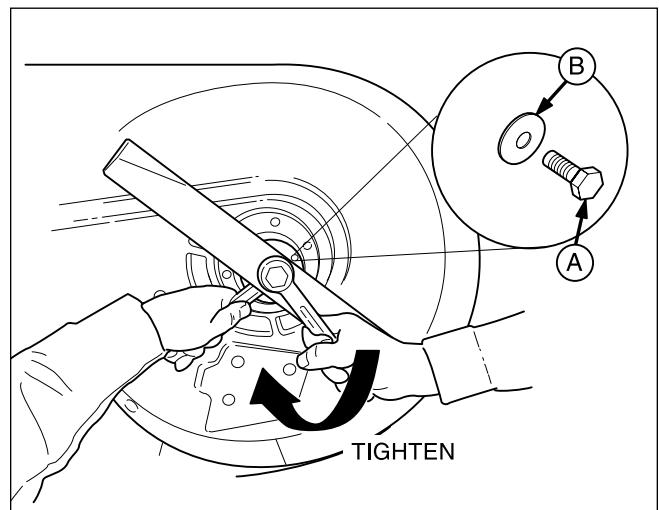

Figure 27. Installing The Blade
5. Reinstall each blade with the tabs pointing up toward deck as shown in Figure 27. Secure with a bolt and flat washer and torque bolts to 70 ft.lbs. (94 N.m.).